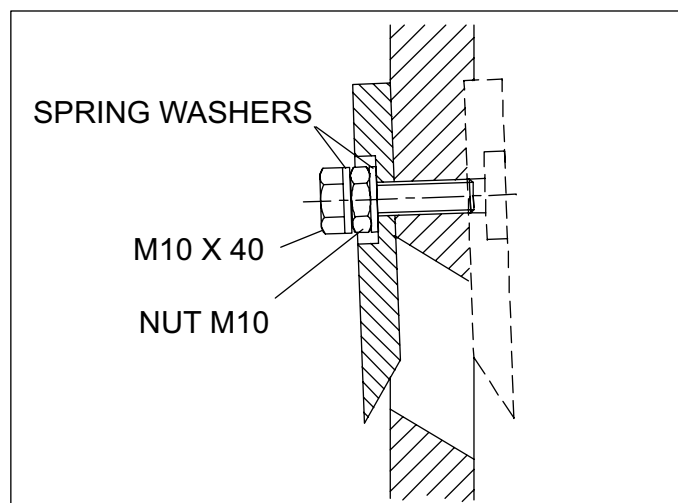

Fig. 14. Remove one knife and attach it to the other side of the disk. The dotted line shows the knife in its normal cutting position.
3. Place another spring washer on the bolt and turn the bolt through the knife into the disk. See Fig. 14. Tighten the bolts to 45 Nm. Attach the knife using all four bolts.